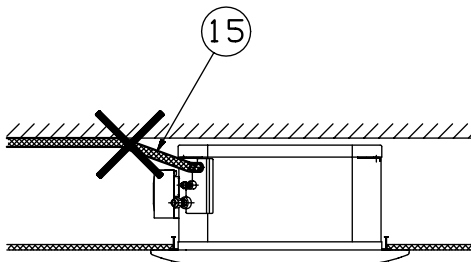

Fig. 3-8
- Do not install pipe with an upward gradient ⑮ from the connection port. It will cause the drain water to flow backwards and leak when the unit is stopped. (fig. 3-8)